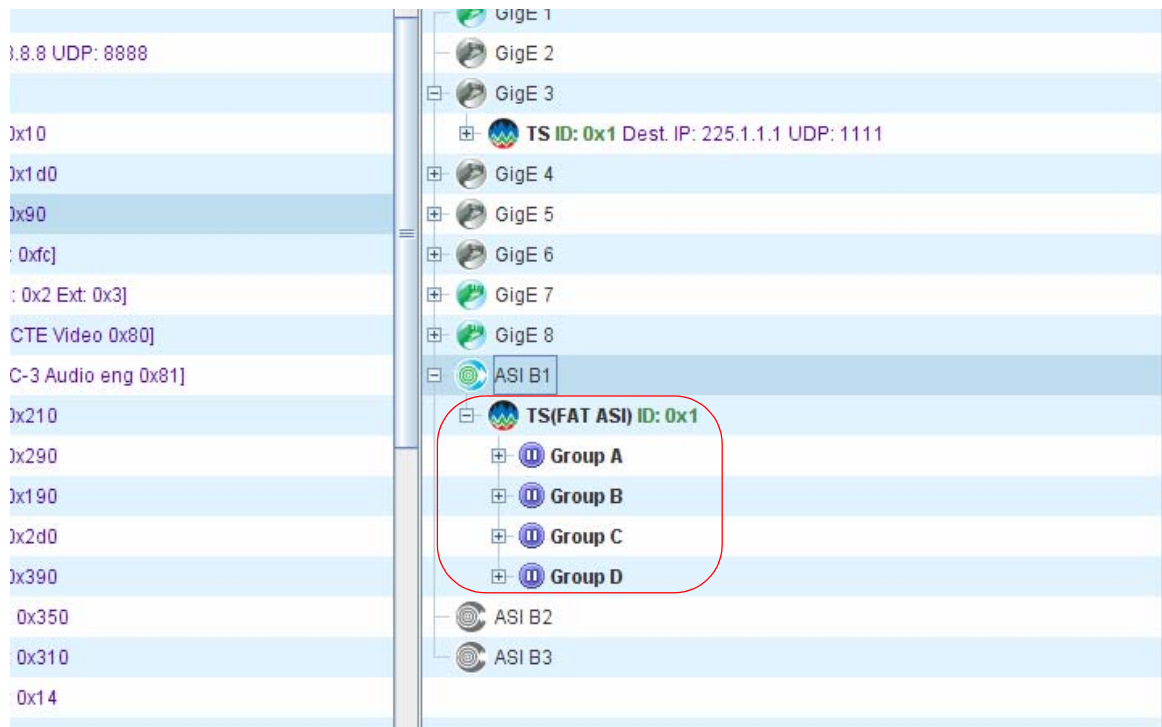

Figure 123. FAT ASI Ports Created
4. When you are done click **OK**. Figure 123 shows the result.